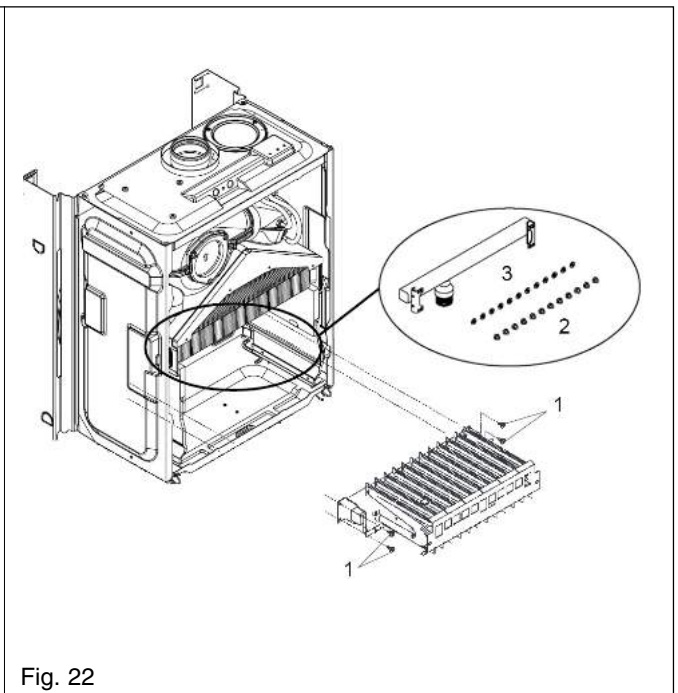

Fig. 22
FIG. 22: locate and remove the four screws which secure the burner in position (1), gently ease the burner out of its location. Once the burner has been removed, the electrode retaining screw can be removed. Locate the burner injectors (2) and remove (if necessary). Replace in the reverse order. **Please note**, the injector sealing washers (3) must be replaced if the injectors have been removed, ensure all seals are in good condition, taking care to ensure they are replaced correctly. Replace in the reverse order.